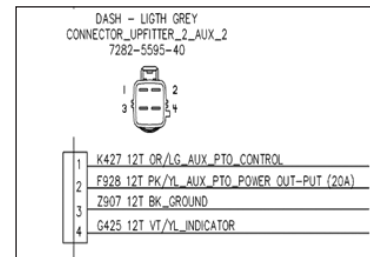

Figure 36
5. Light Gray 4 PIN connector connection references (**Fig. 36**).